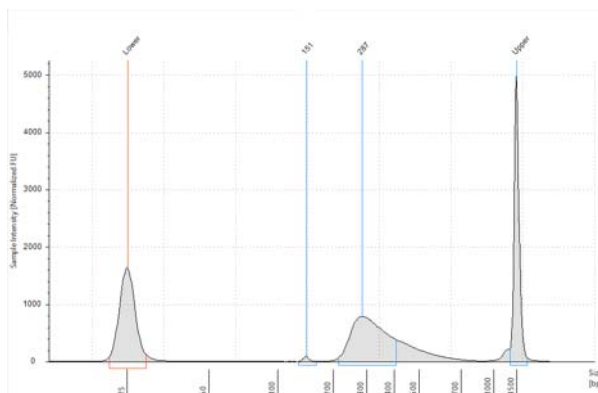

Figure 2 Final mRNA library analyzed using a D1000 ScreenTape.
- 3 Verify that the electropherogram shows the expected DNA fragment size peak position (see Table 29 for guidelines). A sample TapeStation system electropherogram is shown in Figure 2.